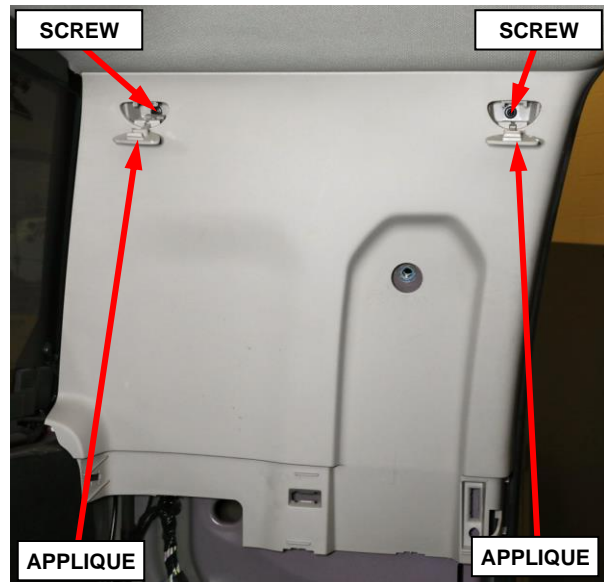

Figure 63 – C-Pillar Upper Trim Panel Fasteners
14. Using a trim stick or equivalent, release the B-pillar airbag applique then remove the screw that secures the upper trim panel (Figure 63).
57. Install and tighten the screws that secure the C-pillar upper trim panel then install the airbag applique covers (Figure 63).